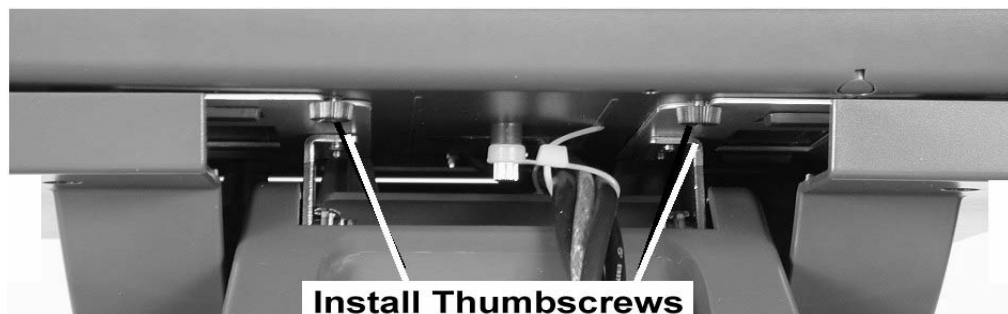

Figure 3-5: Securing the KWS4 to the Adjustable Stand
7. Tilt the stand to the fully reclined position and secure it to the stand with the provided thumbscrews. Figure 3-5.